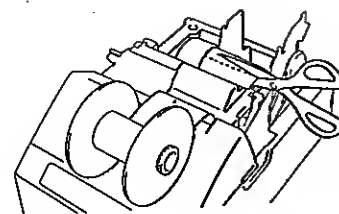

Fig. 1
- 2) Cut the journal paper as shown in the figure. (Fig. 1)